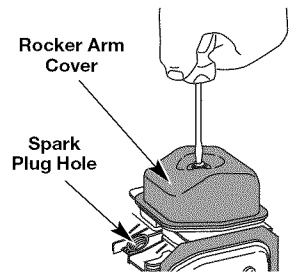

Fig. 34
5. Clean dirt from around the rocker arm cover. Remove the screw holding the rocker arm cover with a large flat blade screwdriver or Torx T-25 bit (Fig. 34). Remove the rocker arm cover and gasket.